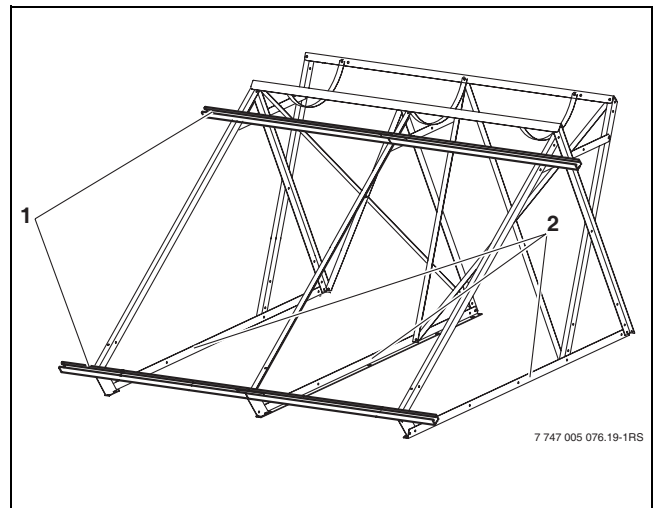

Fig. 17 Fitting the flat roof/rooftop profile rails
- ▶ Align the lower support rails (Fig. 17, [2]) so they are parallel to each other.